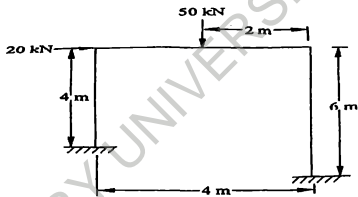

Figure 8
18. Determine the plastic moment capacity of the frame for the loading as given in Figure 8. Assume same section is used throughout.